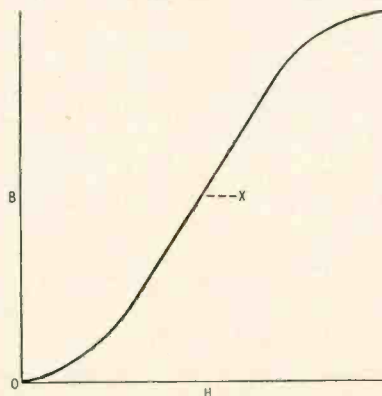

Fig. 6—Plot of a simple B-H curve.
In tape recording, an alternating current (other than the signal current) is fed through the recording coil. This additional current is known as magnetic bias and serves a purpose similar to the bias applied to an amplifier tube. Fig. 6 shows a curve in which magnetic flux (B) is plotted as a function of magnetizing force (H). If signal current only were fed through the recording head, the operating point would be at O. Since the lower portion of